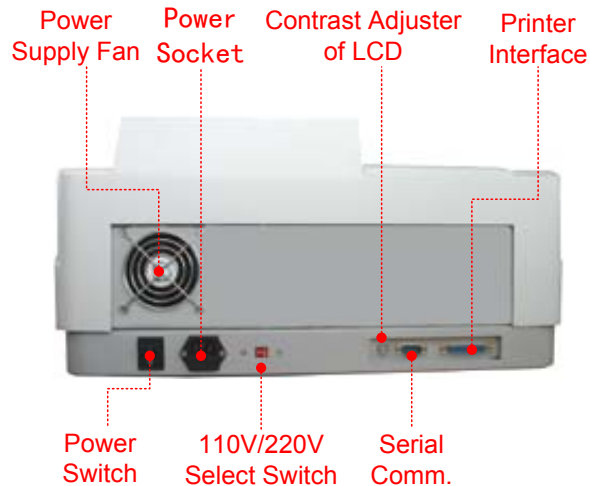

Fig 1
The UNICO SQ-2800 model spectrophotometer (Fig 1) is a single beam, general purpose instrument designed to meet the needs of the Conventional Laboratory, The UNICO SQ-2800 model spectrophotometer is ideal for various applications, such as: Chemistry, Biochemistry, Biotechnology, Petrochemistry, Environmental Protection, Food and Beverage Labs, Water and Waste Water Labs and other fields of quality control and research.
Turn on spectrophotometer by pressing the Power Switch (IO) (see Fig 1). The instrument starts to initiate and the steps are as below: